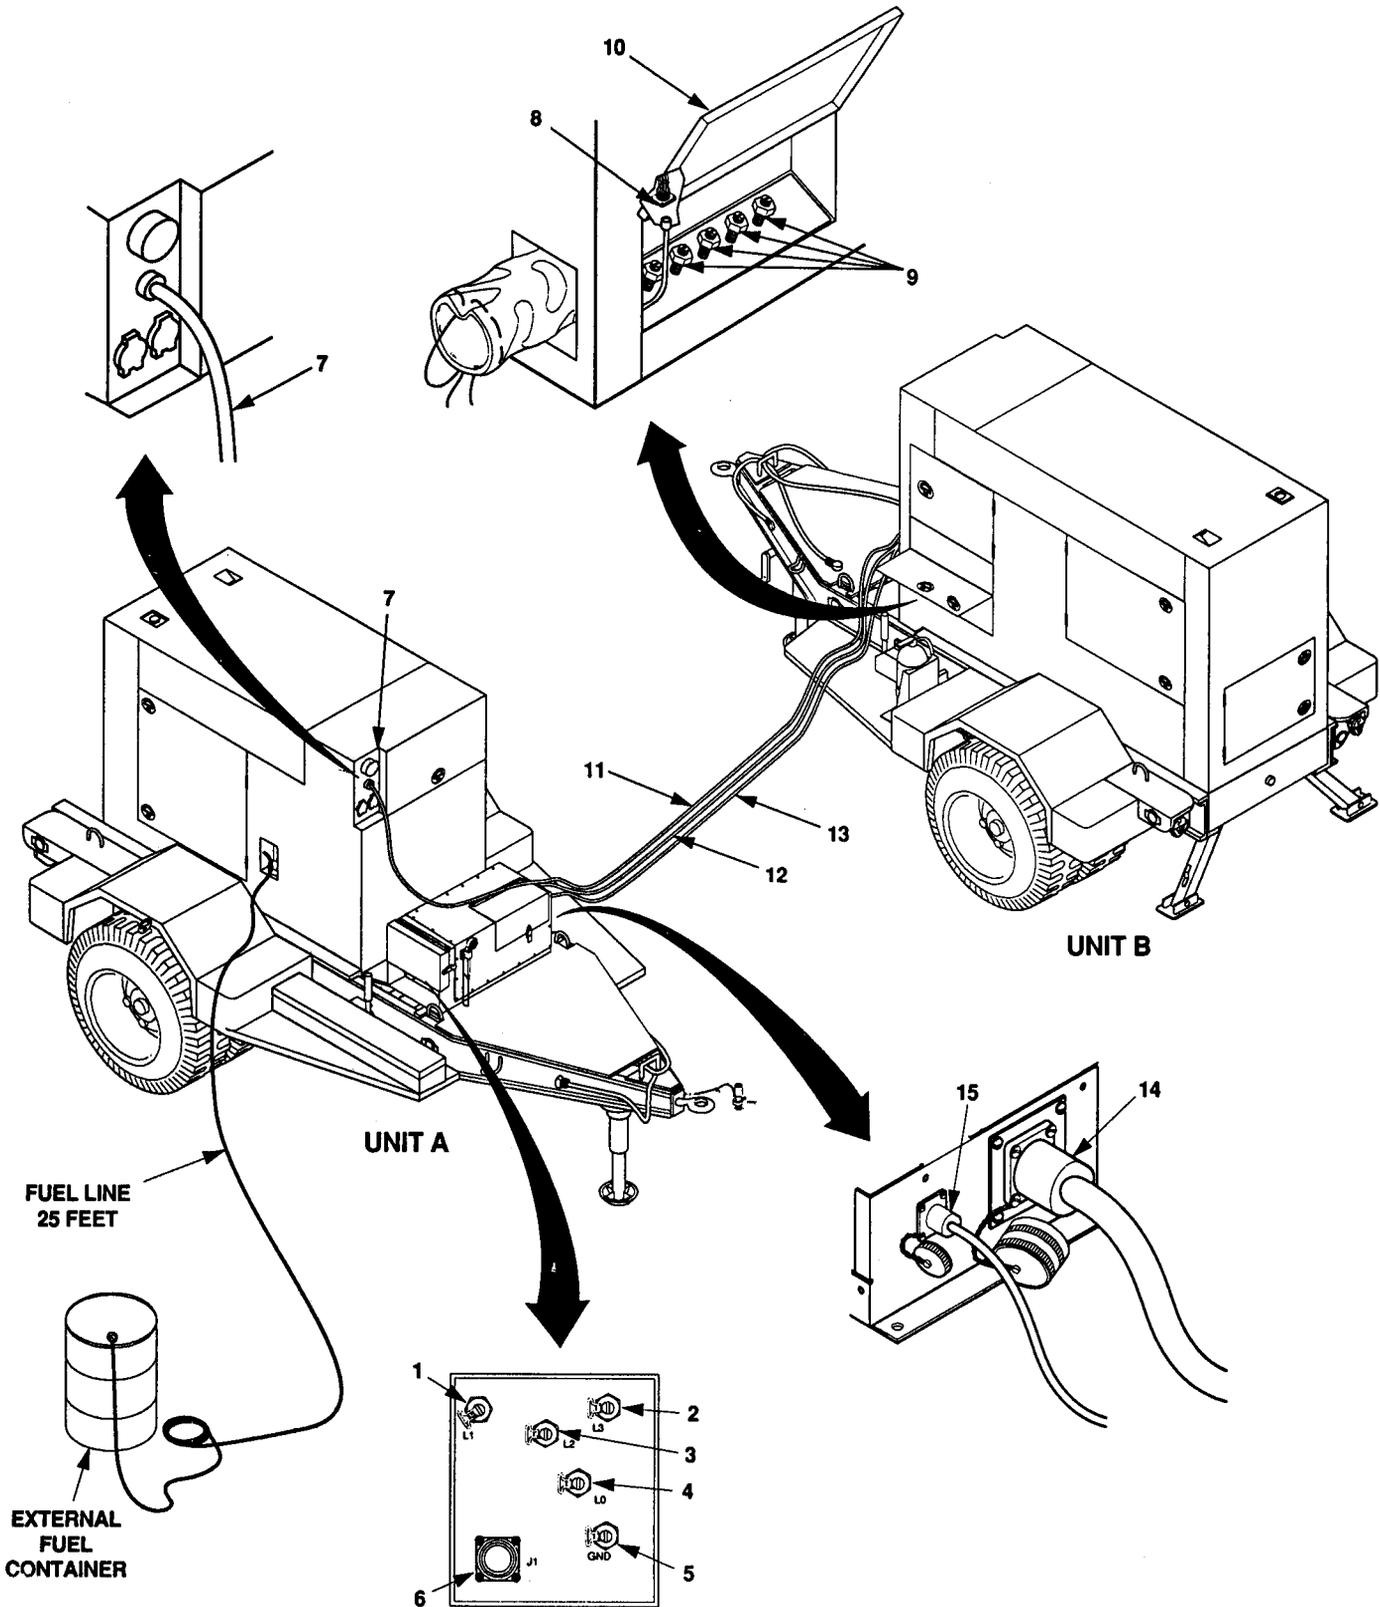

Figure 2-18. Disconnection of Power Plant.
2-7.2.2 Power Plant. Load may be connected to the switch box (figure 2-18) by either of two methods. One method is to connect the load cable to the J1 connector (6). The other method is to connect load cables to the load terminals (1, 2, 3, 4, and 5). Disconnect the load cable using the appropriate method. Disconnect unit A from unit B as follows: